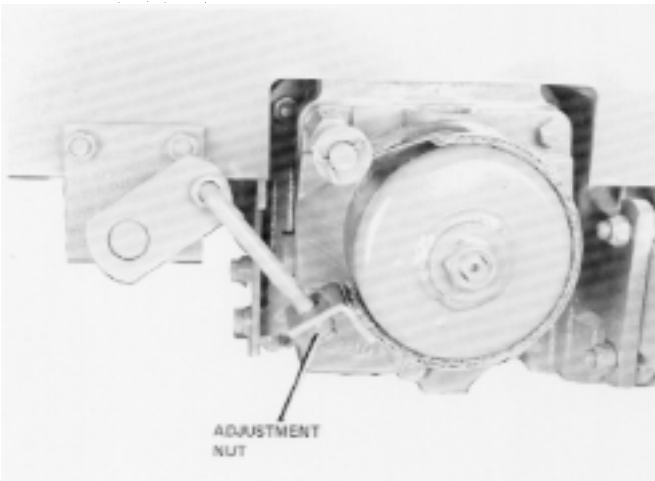

Fig. 5-23 D-Series, Brake Band Adjustment (rear)
3. Back off the nut until the brake band is again free to slide from side to side. See Fig. 5-23.
5. Remove brake rod from brake band (Ref. Fig. 5-23).